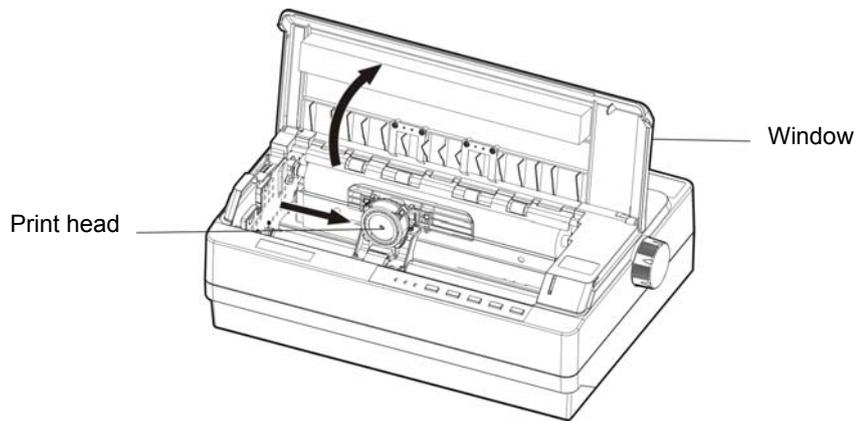

Figure 1-4 Open the window
4. Slide the print head to the middle of the printer. (As shown in figure 1-4)